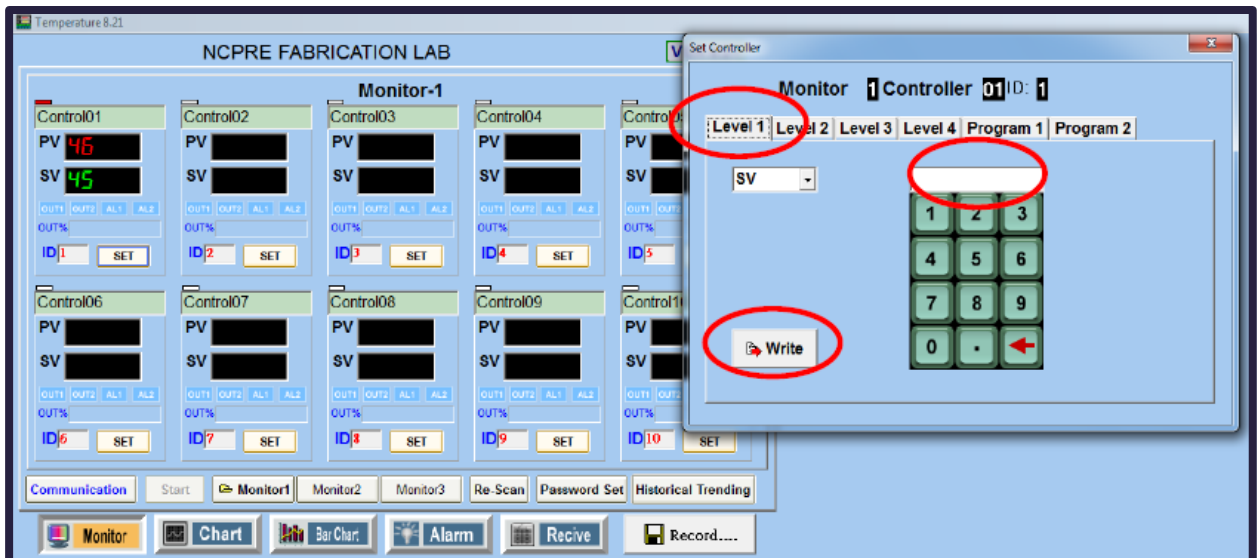

Figure. 21
11. “Set Controller” pop up will appear after clicking on SET. To directly run the furnace to the desired temperature put the SV in Level 1 by clicking on the digits. Once the desired value appeared in blank field, then click on “Write” (Figure. 21).